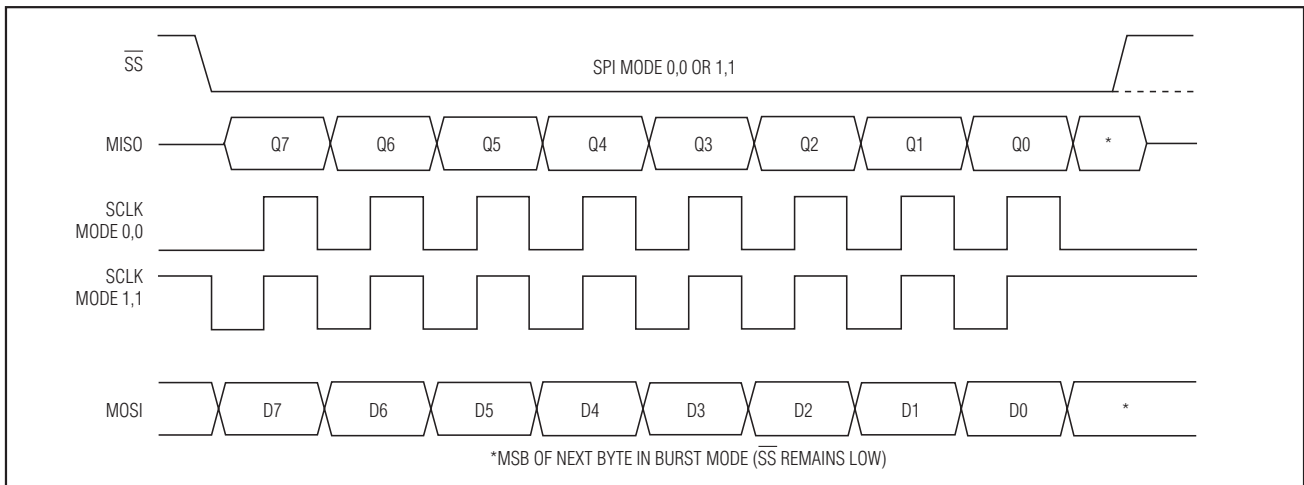

Figure 16. SPI Clocking Modes
The SPI master provides the MAX3421E SCLK signal to clock the SPI interface. SCLK has no low-frequency limit, and can be as high as 26MHz. The MAX3421E changes its output data (MISO) on the falling edge of SCLK and samples input data (MOSI) on the rising edge of SCLK. The MAX3421E ignores SCLK transitions when  $\overline{SS}$  is high. The inactive level of SCLK may be low or high, depending on the SPI operating mode (Figure 16).
The MAX3421E SPI interface operates without adjustment in either SPI mode (CPOL = 0, CPHA = 0) or (CPOL = 1, CPHA = 1). No mode bit is required to select between the two modes since the interface uses the rising edge of the clock in both modes. The two clocking modes are illustrated in Figure 16. Note that the inactive SCLK value is different for the two modes. Figure 16 illustrates the full-duplex mode, where data is simultaneously clocked into and out of the MAX3421E.
- 2) After driving SCLK to its inactive state, the SPI master selects the MAX3421E by driving  $\overline{SS}$  low. The MAX3421E turns on its MISO output buffer and places the first data bit (Q7) on the MISO output (Figure 16).
puts the MSB of the next data byte in the sequence on the MISO output (Figure 16).